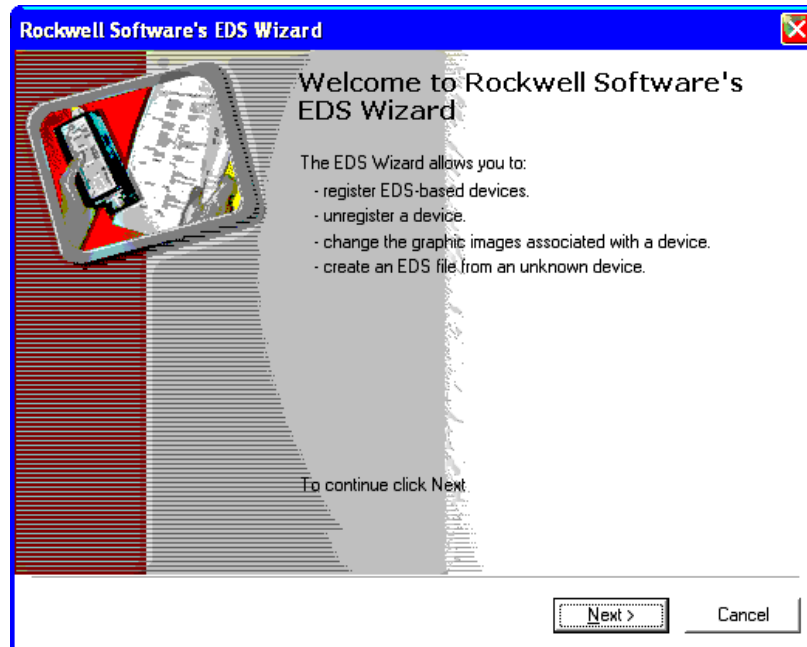

Figure 1 RSNetworkx EDS Wizard screen.
- 1 Figure 1 shows CDN466 general information after CDN466 is registered with the system through an EDS file (**right-click on unit _> Properties**).